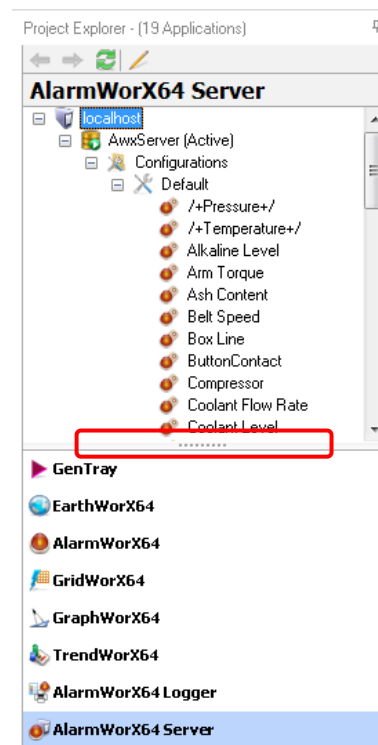

Figure 7 - Using the AlarmWorX64 Server
1. Start the **GENESIS64 Workbench** and select the **AlarmWorX64 Server** application. The handle (indicated in red in Figure 7) can be moved upwards to expand the list with applications presented.